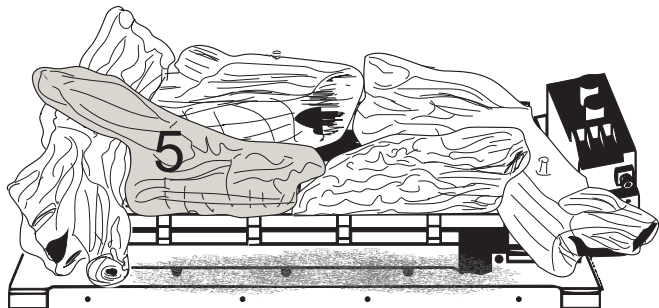

Figure 6.6 - Log #5 Placement
- Hold log #5 with the pointed end toward the right. Place log #5 by positioning the pin locator hole on the bottom of the log over the left pin behind the grate and resting the left end of the log over the notch on log #3. Note: Logs #4 & #5 must be seated and locked into position. The ember face of logs #4 and #5 should be straight and approximately 3/8" behind the grate bar. See Figure 6.6.